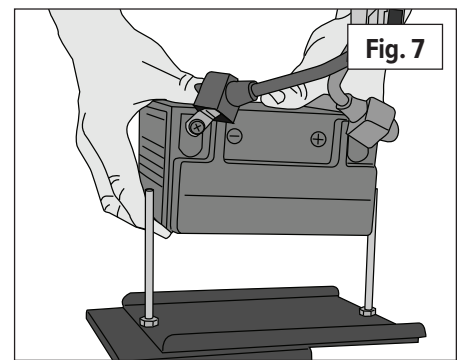

Fig. 7
15. **(Fig. 7)** Lift the old battery straight up and out of the tray.